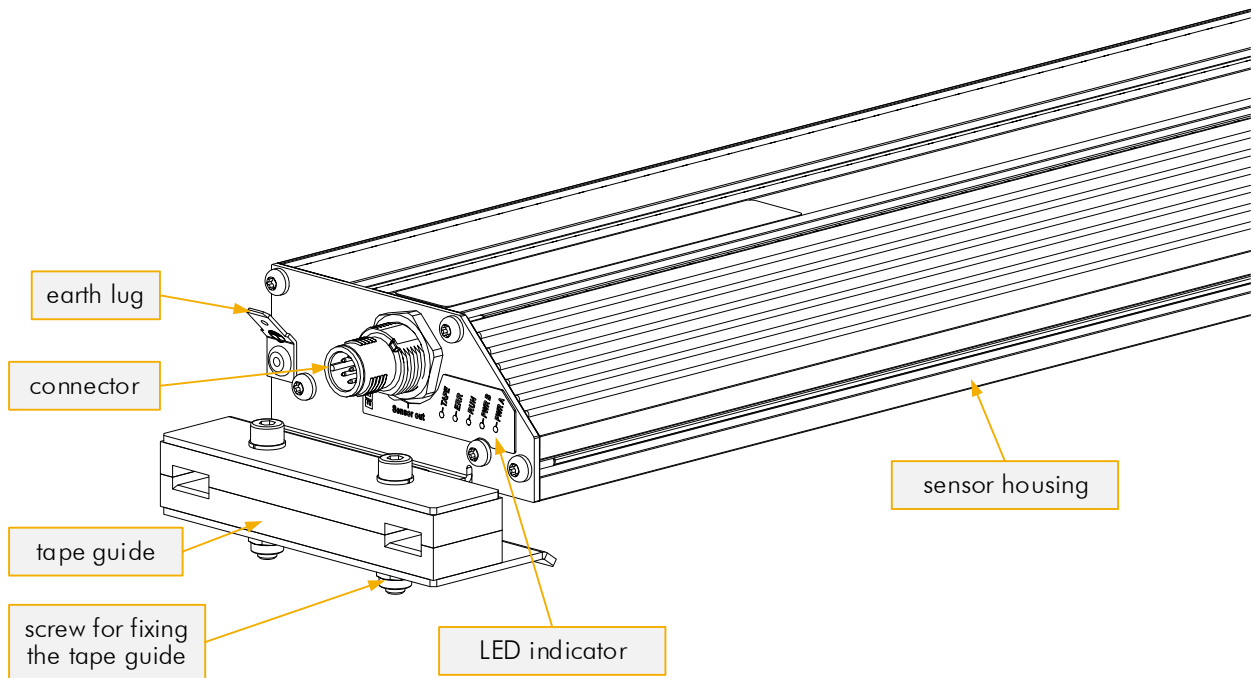

Fig. 20: Components of the sensor (semi-guided variant)
9. Now pass the tape through the sensor. Loosen the screws (Fig. 20 on page 38) to fix the polymer guides and remove them. Then remount them with the tape in between.